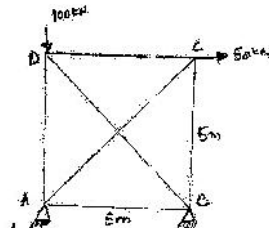

Fig. 4
13. Analyze the truss shown in fig. 4 by using flexibility matrix method, AE constant